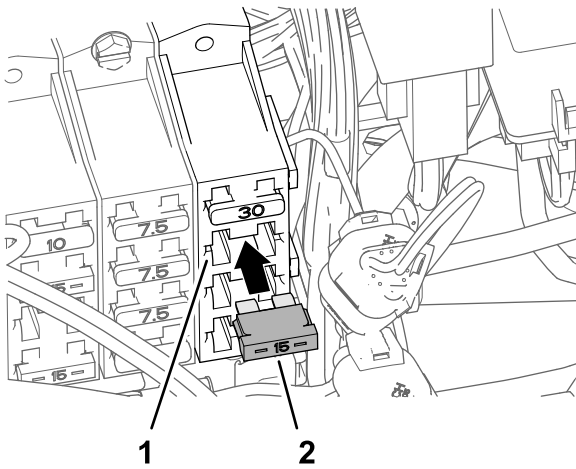

**Figure 192**
5. Connect the blade connector that you marked in step 4 into the socket connector at the end of the pink wire 51 mm (2 inches) of the kit wire harness (Figure 192).